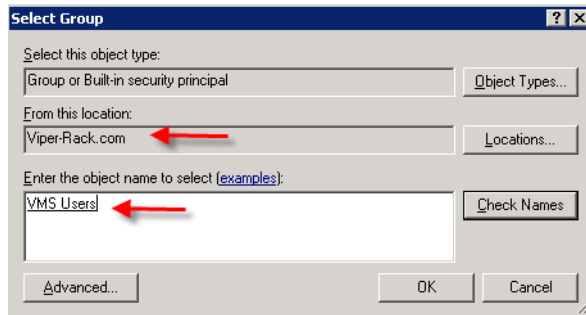

Figure 2-42 Select Group Dialog
- Click the **Add** button. The Select Group dialog will open, as shown in figure 2-42. Ensure that the location is the domain, then enter **VMS Users** as the object name and click **Check Names**.